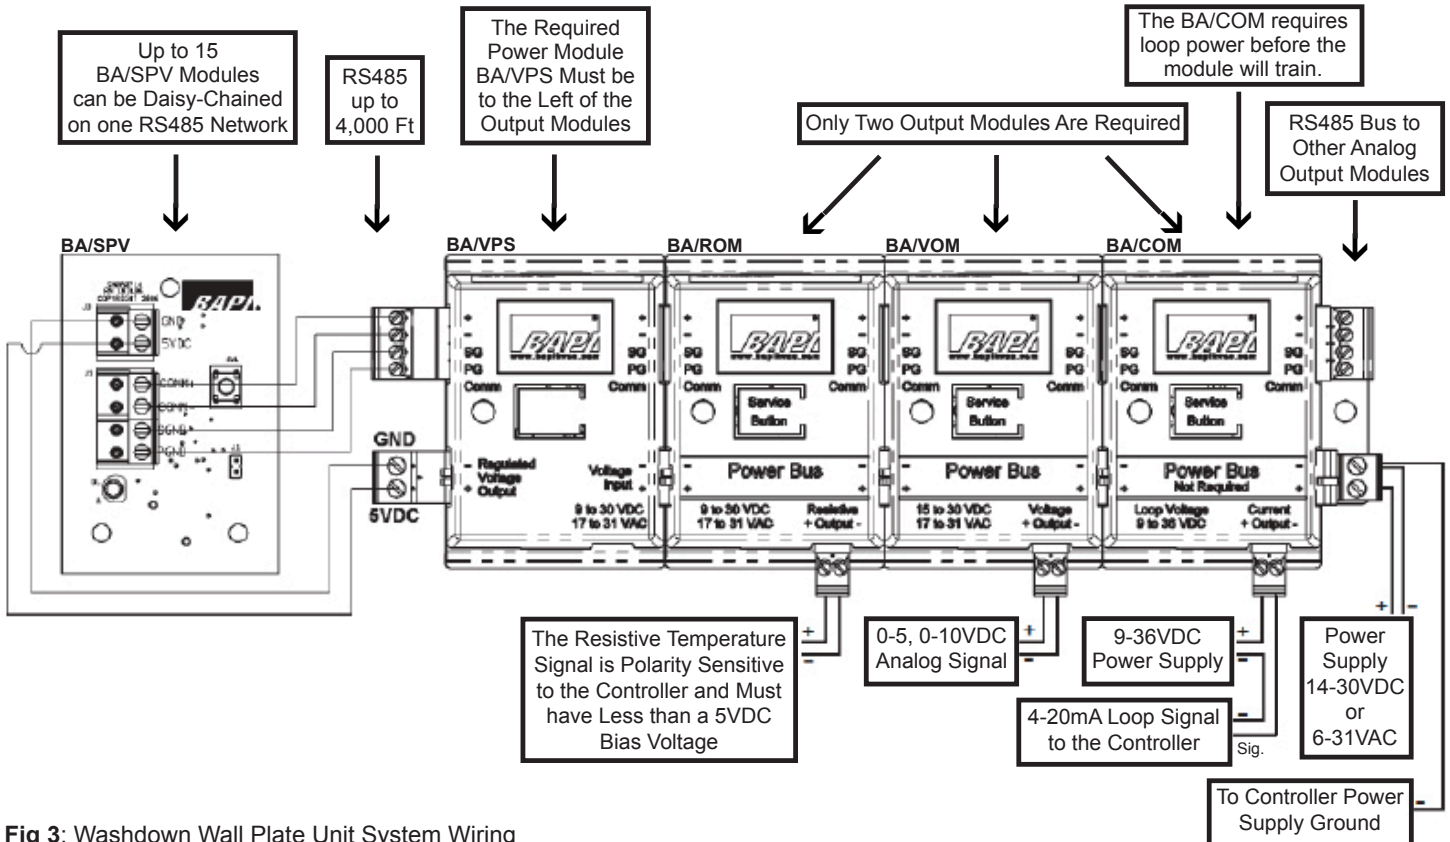

Fig 3: Washdown Wall Plate Unit System Wiring
- Note 1:** Each BA/SPV Wall Sensor requires two (2) output modules. One (1) is for Temperature, one (1) for Humidity and one (1) BA/VPS Power Supply.
- Note 2:** Wire the Washdown Wall Plate Unit to the Washdown Wall Plate Power Supply and analog modules as shown in fig 3 above.
- Note 4:** Up to one hundred twenty seven (127) analog output modules may be connected to the Washdown Wall Plate Power Supply, connector to connector or with RS485 cable.